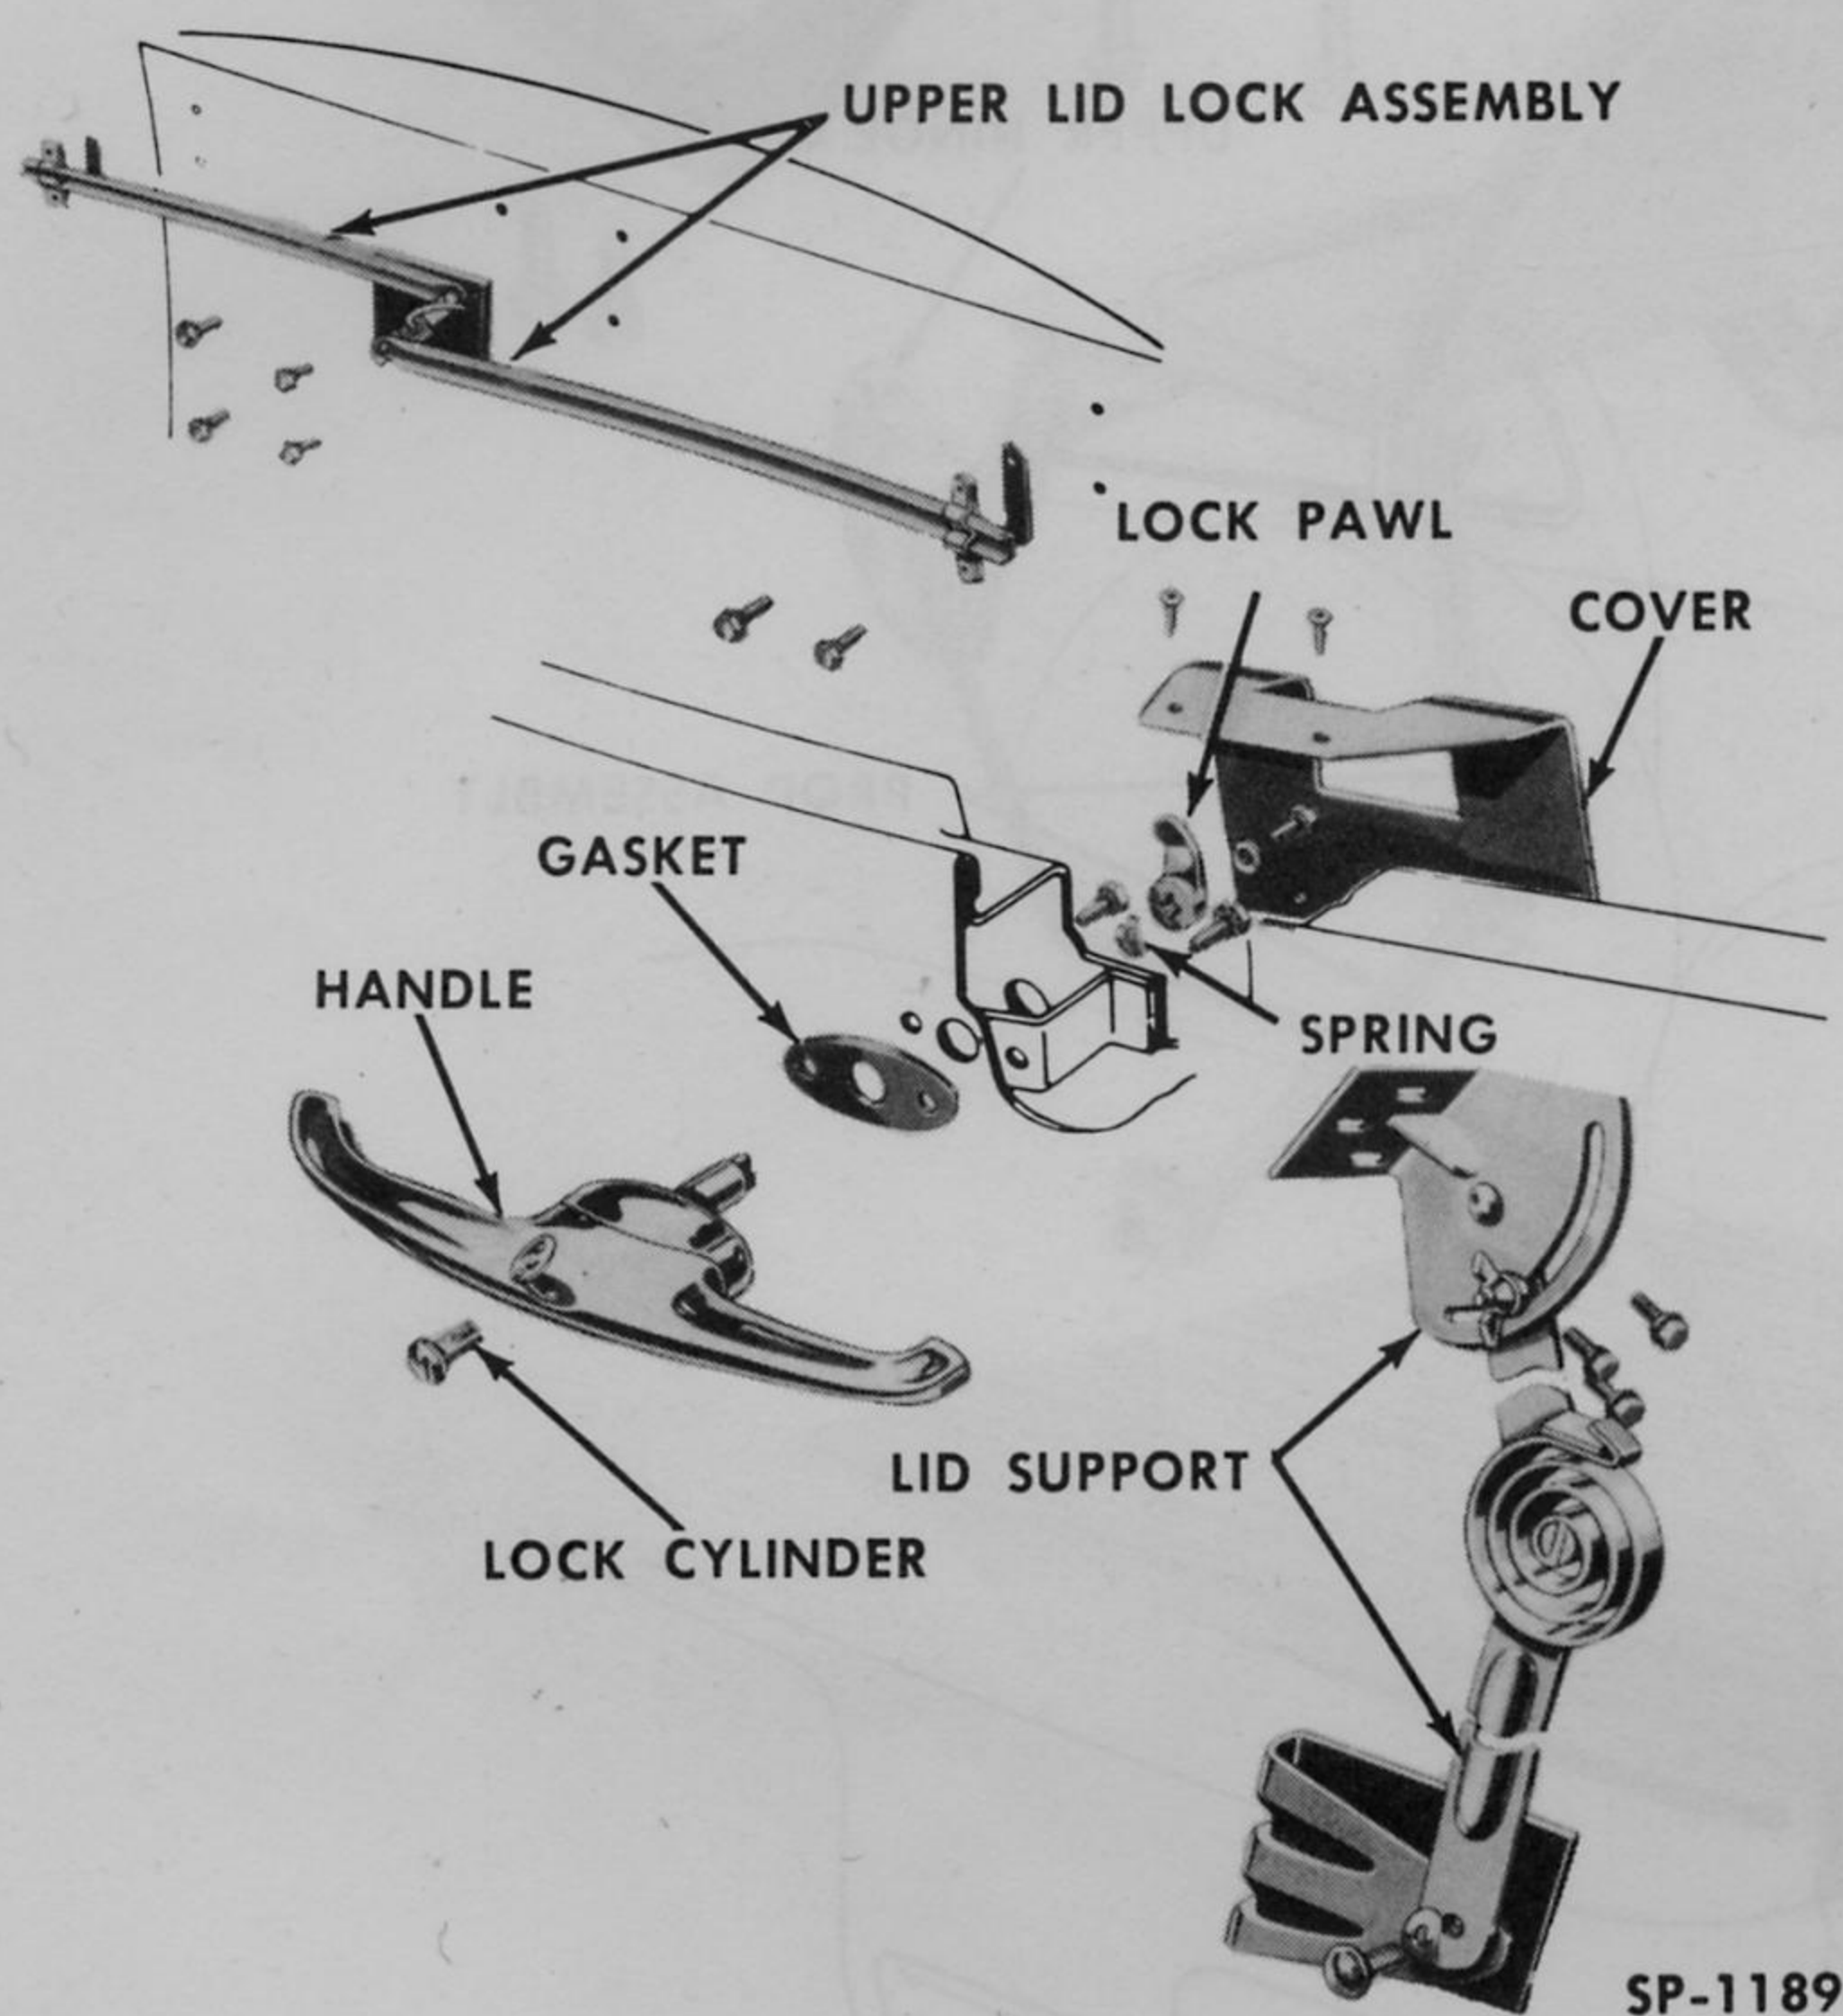

Fig. 360—Rear Compartment Lid Lock and Support—*Frazer Vagabond*
**2. Lid Lock (Fig. 360).** The upper lid lock consists of two bars extending from an eccentric pivot at the center of the lid, which lock the lid closed when the center handle assembly, mounted
The lower lid lock is a swivel type extending through the lid panel. The latch on the lock shaft on the inner panel of the lid engages the striker mounted on the lower edge of the upper lid (Fig. 360). The lid lock may be replaced by removing the lock cover on the lid inner panel, the latch bolt,